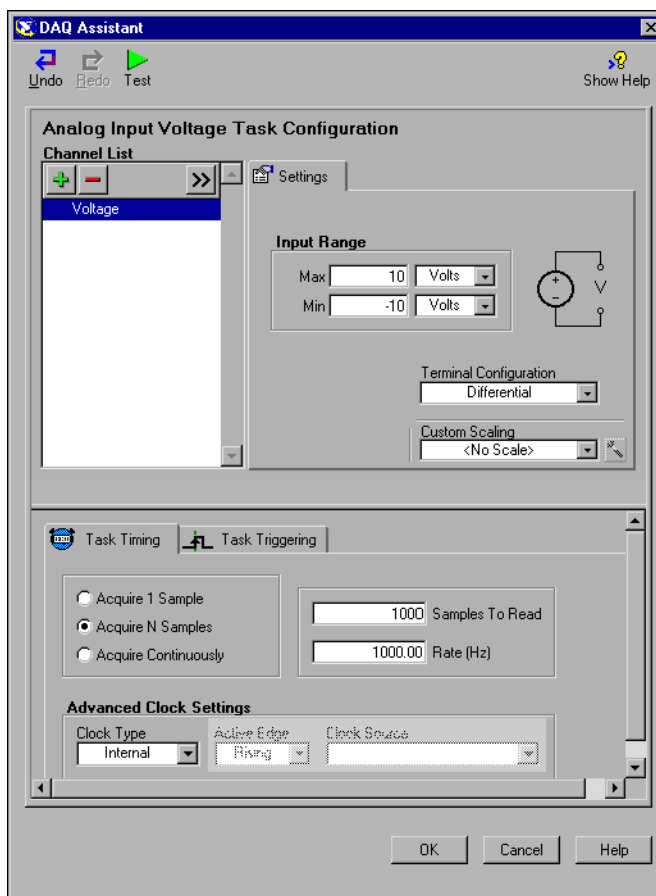

Figure 4-1. Configuring a Task Using the DAQ Assistant
5. In the **My Physical Channels** listbox, select the physical channel to which the signal is connected, such as **ai0**, and then click the **Finish** button. The DAQ Assistant opens a new window, shown in Figure 4-1, which displays options for configuring the channel you selected to complete a task.